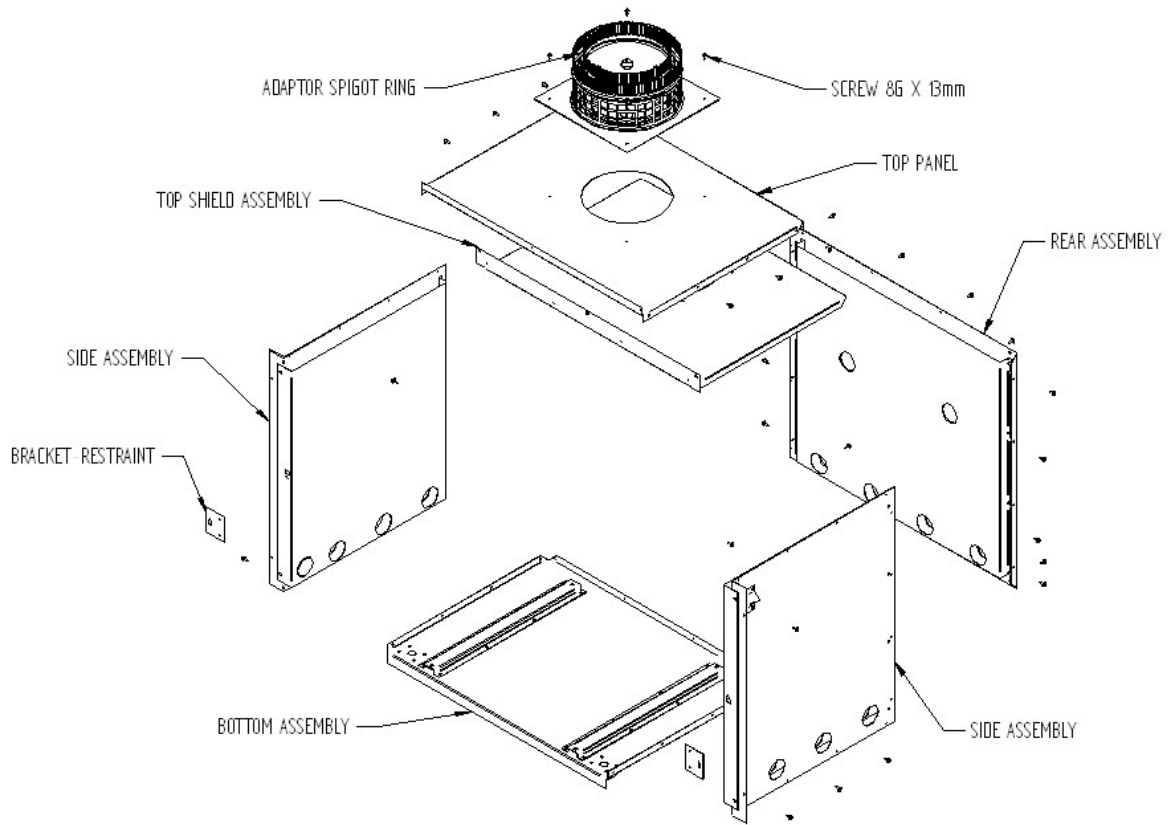

**Fig. 2**
1. Inspect the house construction at the proposed installation position to verify that the flue casing (250mm diameter, plus 25mm clearance all around) can pass through the ceiling space without requiring the removal of essential roof or ceiling support beams. The flue centerline will be 305mm from the rear wall and it must be at least 610mm from any side wall. (See Fig. 2).
4. **Frame up the enclosure** using normal 90x45mm dressed timber, verifying that it will be on the flue centerline. (See Fig. 2). The overall depth should be  $(610 - t)$  mm, where 't' is the cladding thickness. The distance between the front uprights must be 755mm (use the supplied metal support angle as a spacer). Fix the metal support angle between the two front uprights at a height of 700mm above the base of the shielding (zero clearance) box.
10. For heat sensitive floors, construct an **insulating floor protector** of the shape shown in the Floor Plan (Fig.2) and projection sizes on page 11, (see below for concrete floors). The insulating floor protector is constructed of one layer of 6mm thick PROMATECT H or SUPALUX, topped with a layer of tiles or slate. The floor protector must be at least 875mm wide. It is desirable to carry the floor protector all the way inside the enclosure to ensure that the bottom of the shielding box does not rest below the top surface of the floor protector.